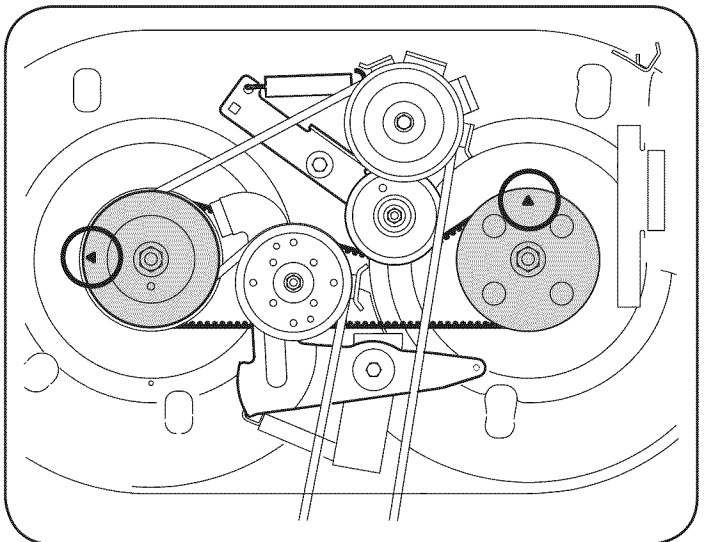

Figure 26
2. The top of each spindle pulley is marked with an arrow. See Figure 26. The arrows should be perpendicular (at a 90° angle) to each other.